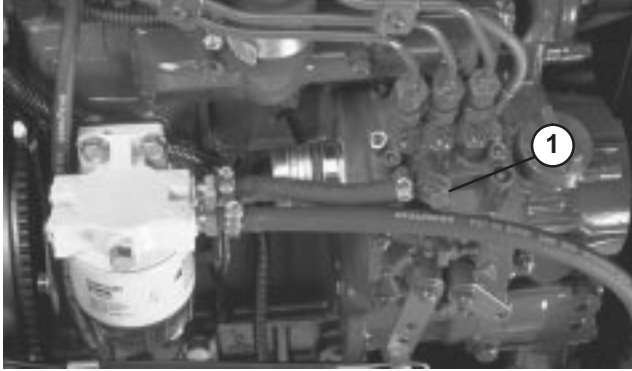

Figure 40
3. Open the air bleed screw on the fuel injection pump (Fig. 40).